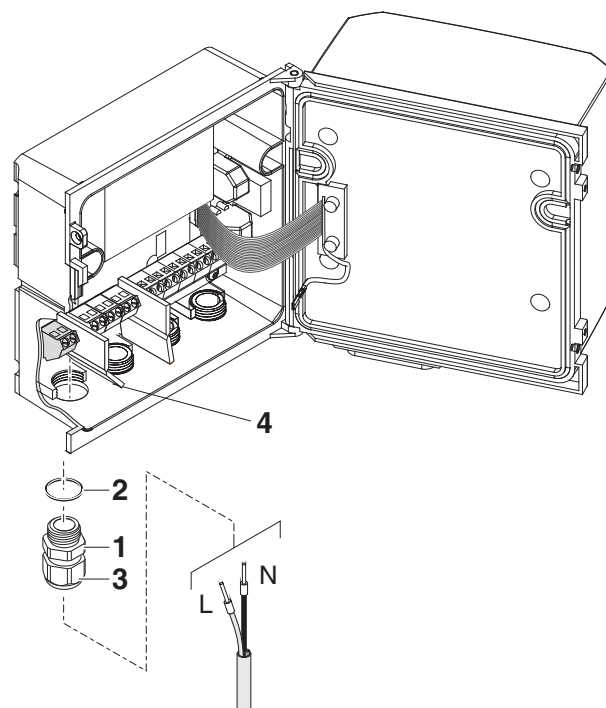

Fig. 3-13 Inserting the supply line.
- 6 Screw a cable gland (pos. 1 in Fig. 3-13) with sealing ring (pos. 2) into the enclosure below the power supply connection.
- 7 Loosen the coupling ring (pos. 3).
- 8 Feed the power line through the cable gland into the enclosure. When doing so bend the flexible divider (pos. 4) to the right.
- 10 Tighten the cap nut (pos. 3 in Fig. 3-13).